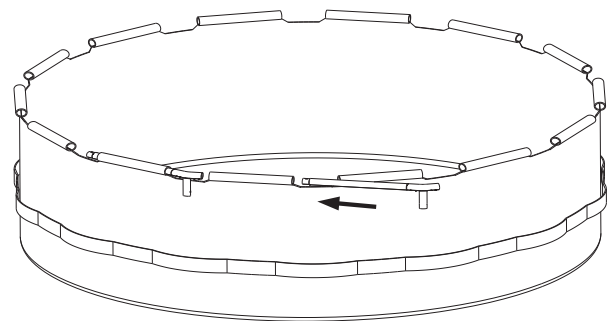

Figure 6
b. Slide the next set of Horizontal Beam with T-Fitting into the sleeve beside the first set (see Figure 6).